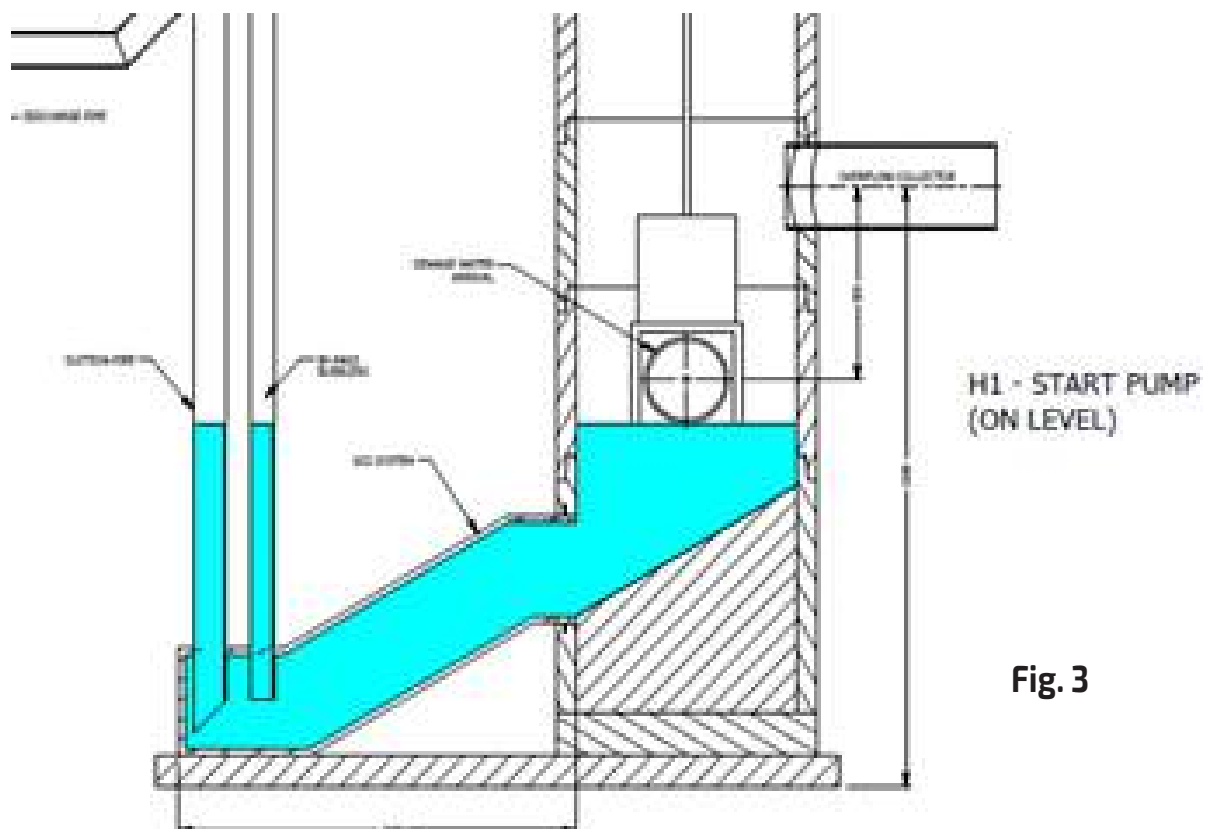

Fig. 3
1. The pump starts at the “on level” at full speed to maximise re-priming lift [minimising re-prime time]. This lowers the water level. See Fig 3.